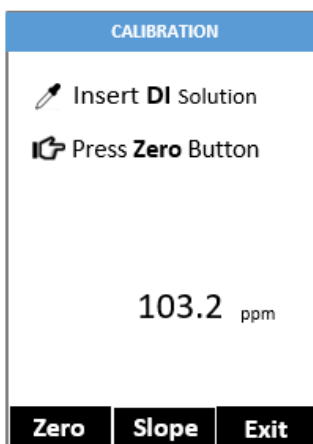

Figure 4.
2. Power on the HW-400 by pressing (OK). Allow 5-10 seconds for the HW-400 to stabilize.
3. Press **Calibration** (◀ or ▶) to launch the **SUGAR CALIBRATION** screen (Figure 4).